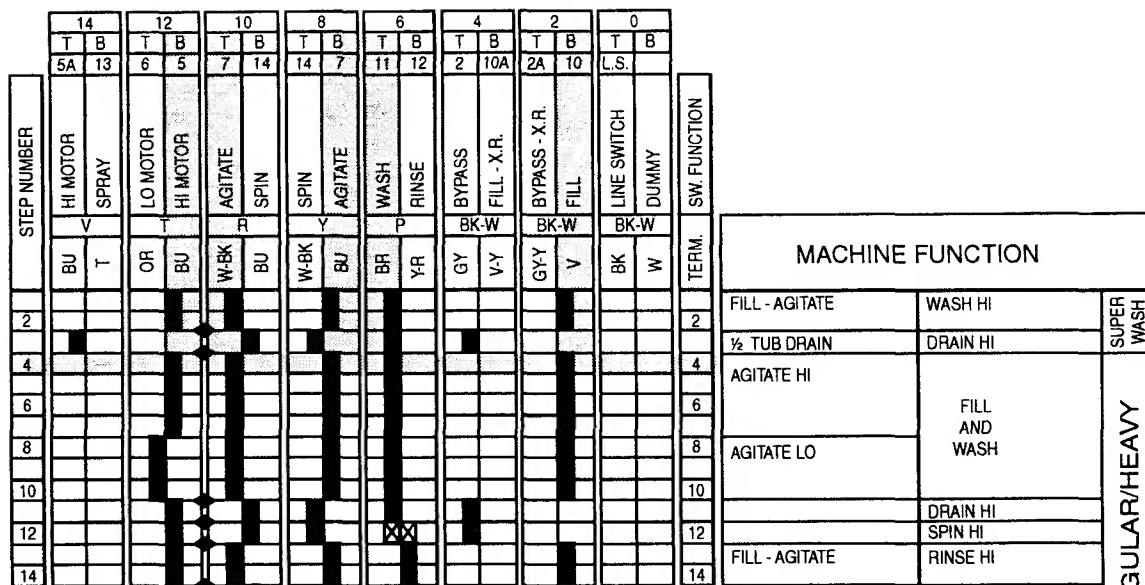

Fig. 23
6. To select the REGULAR cycle, push in the push/pull knob and turn the cycle selector to the REGULAR cycle. (Fig. 23)